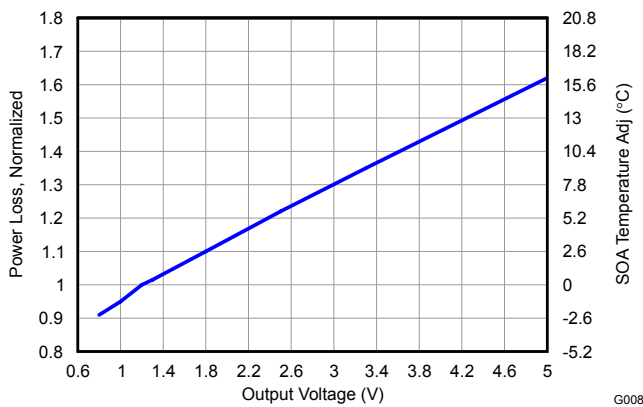

Figure 14. Normalized Power Loss vs Output Voltage
- Normalized Power Loss for output voltage \approx 0.95 (Figure 14)
- SOA adjustment for output voltage \approx -1.3 $^{\circ}$ C (Figure 14)